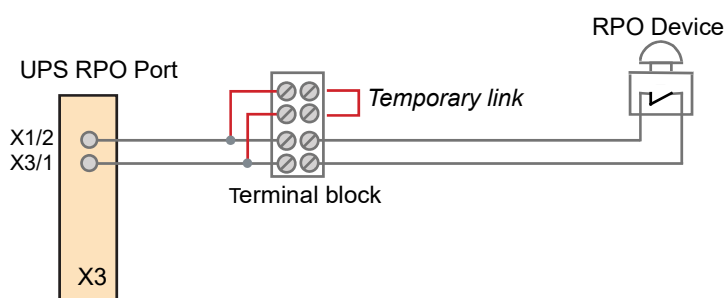

Figure 9.4 Remote power off (RPO) connection
2. Connect the cable as shown in Figure 9.4.